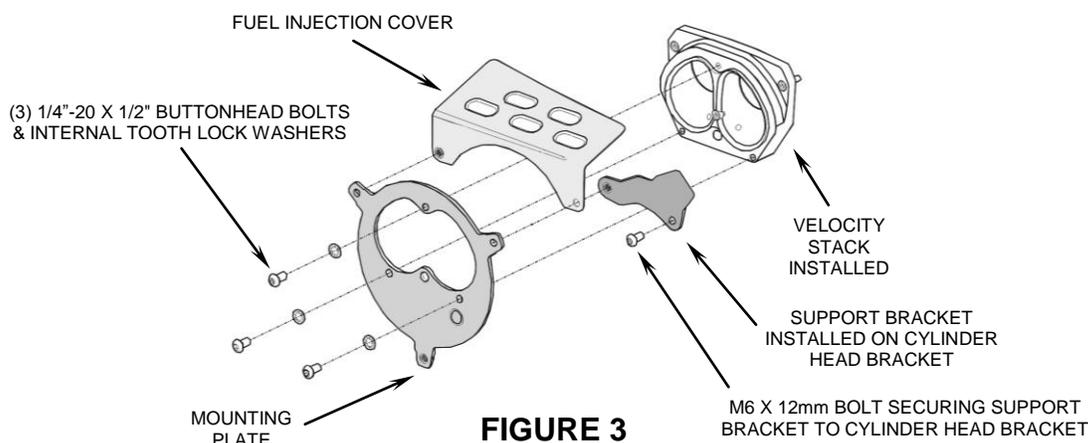

FIGURE 3
5. Position the mounting plate over the velocity stack (with the welded tube toward inside) and secure using (3) supplied 1/4"-20 x 1/2" buttonhead bolts and (3) internal tooth lock washers, finger tighten only. See Figure 3.
6. Install the supplied support bracket on to the stock bracket protruding from the top of the front cylinder head, secure finger tight with the supplied M6 x 12mm buttonhead bolt. Align the support bracket hole with the corresponding hole in the backing plate. See Figure 3 & 4.
7. Fully tighten the (3) 1/4"-20 buttonhead bolts (Steps 5).
9. Install the fuel injection cover between the mounting plate and support bracket, as shown in Figure 3.